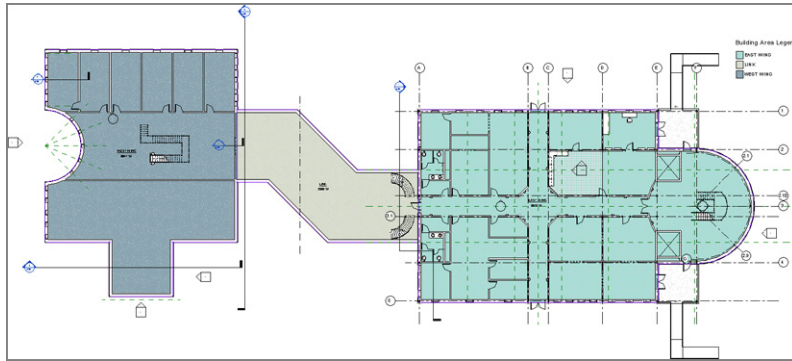

FIGURE 15.29: Adding an area legend
25. Click OK to return to the model (see Figure 15.29).